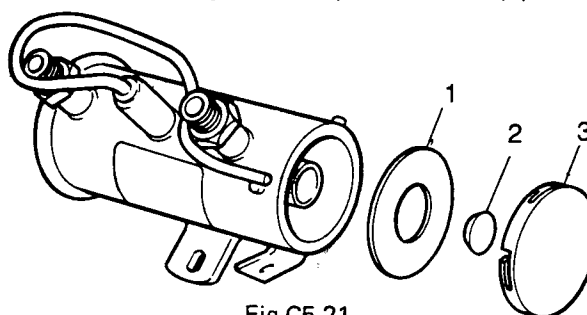

Fig C5.21
- (6) Refer to Fig C5.21. Fit the rubber seal (1) and magnet (2) into the end cover (3) and secure to the pump body with the bayonet fixing.
- (7) Refit the pump to the vehicle (see Sub-section C4, Chapter 2).